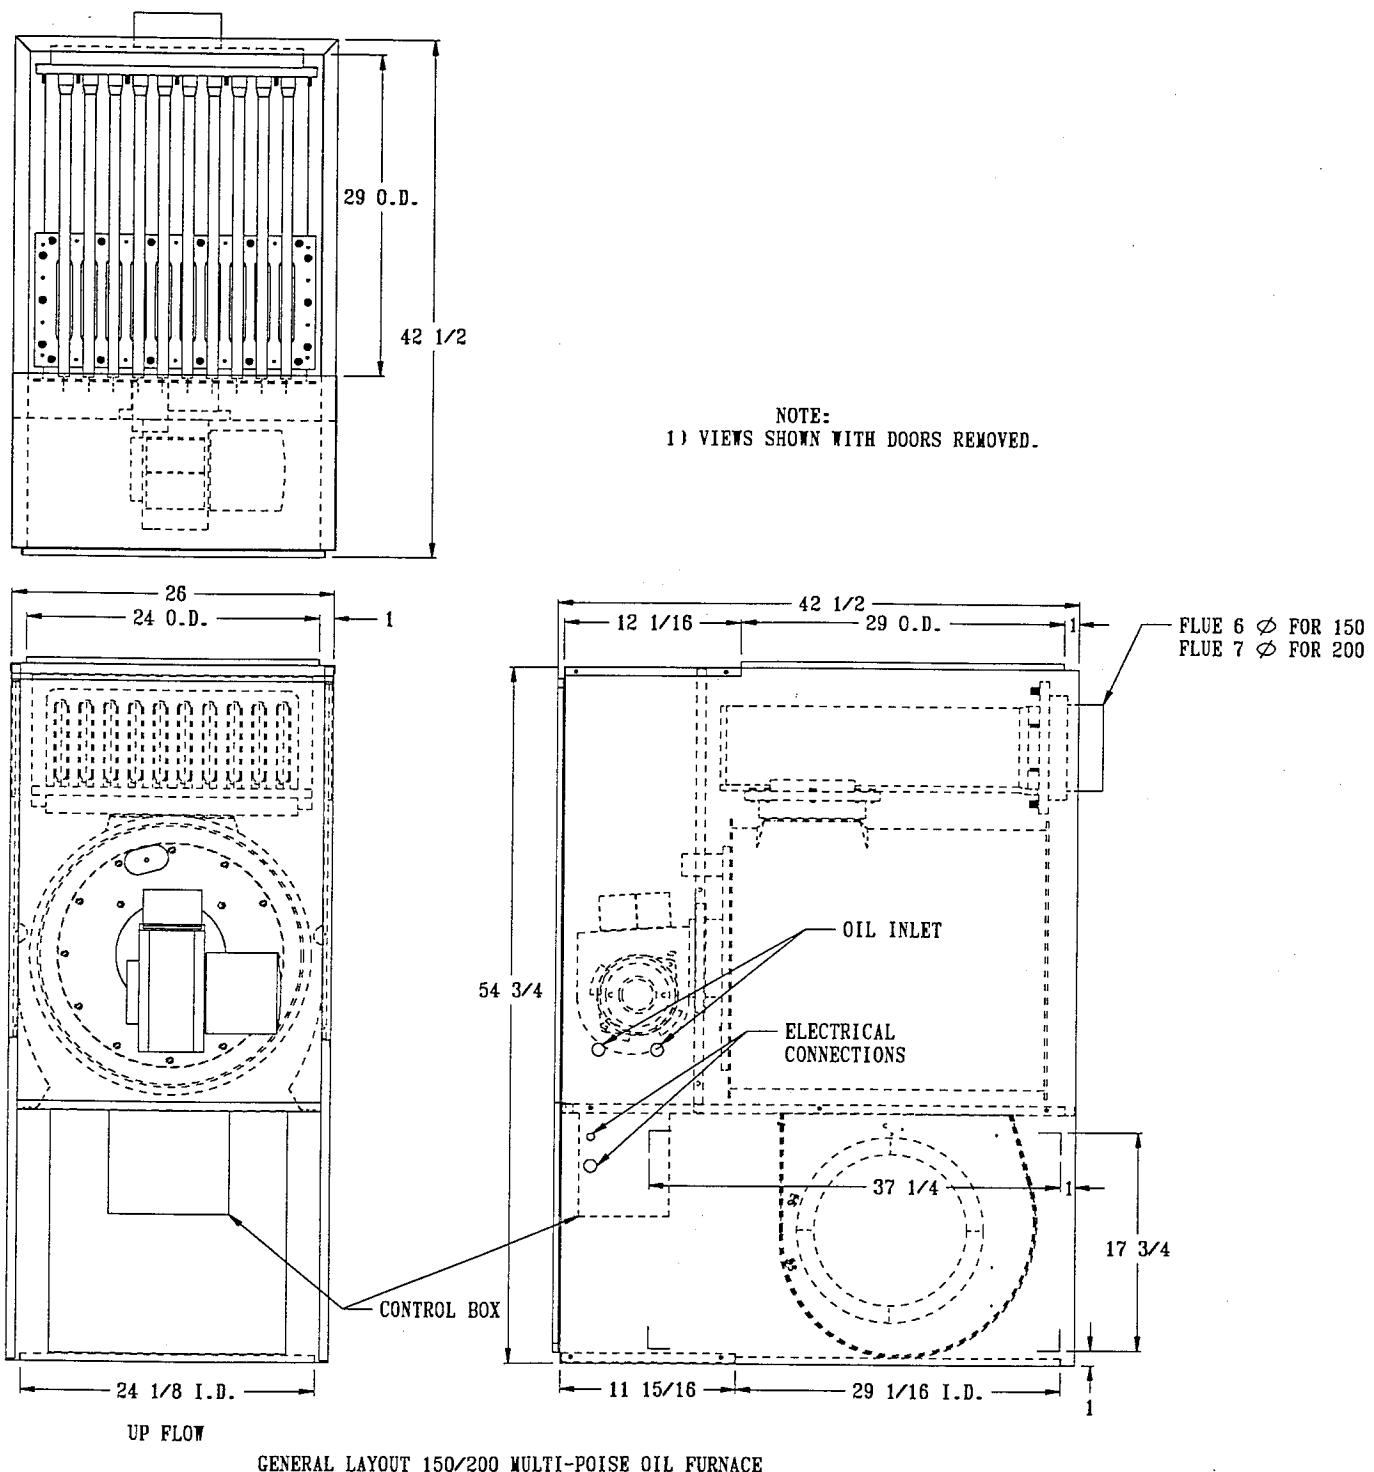

Figure 7
2. The filter rack is made up of four (4) pieces - a top and bottom (which are the same), and the rear and access panels (which are the same). (Use the shorter two rear/aceess panels—discard the long pair.)
3. Using corner indentations as a guide, cut out the selected side duct return opening (See Figure 7).